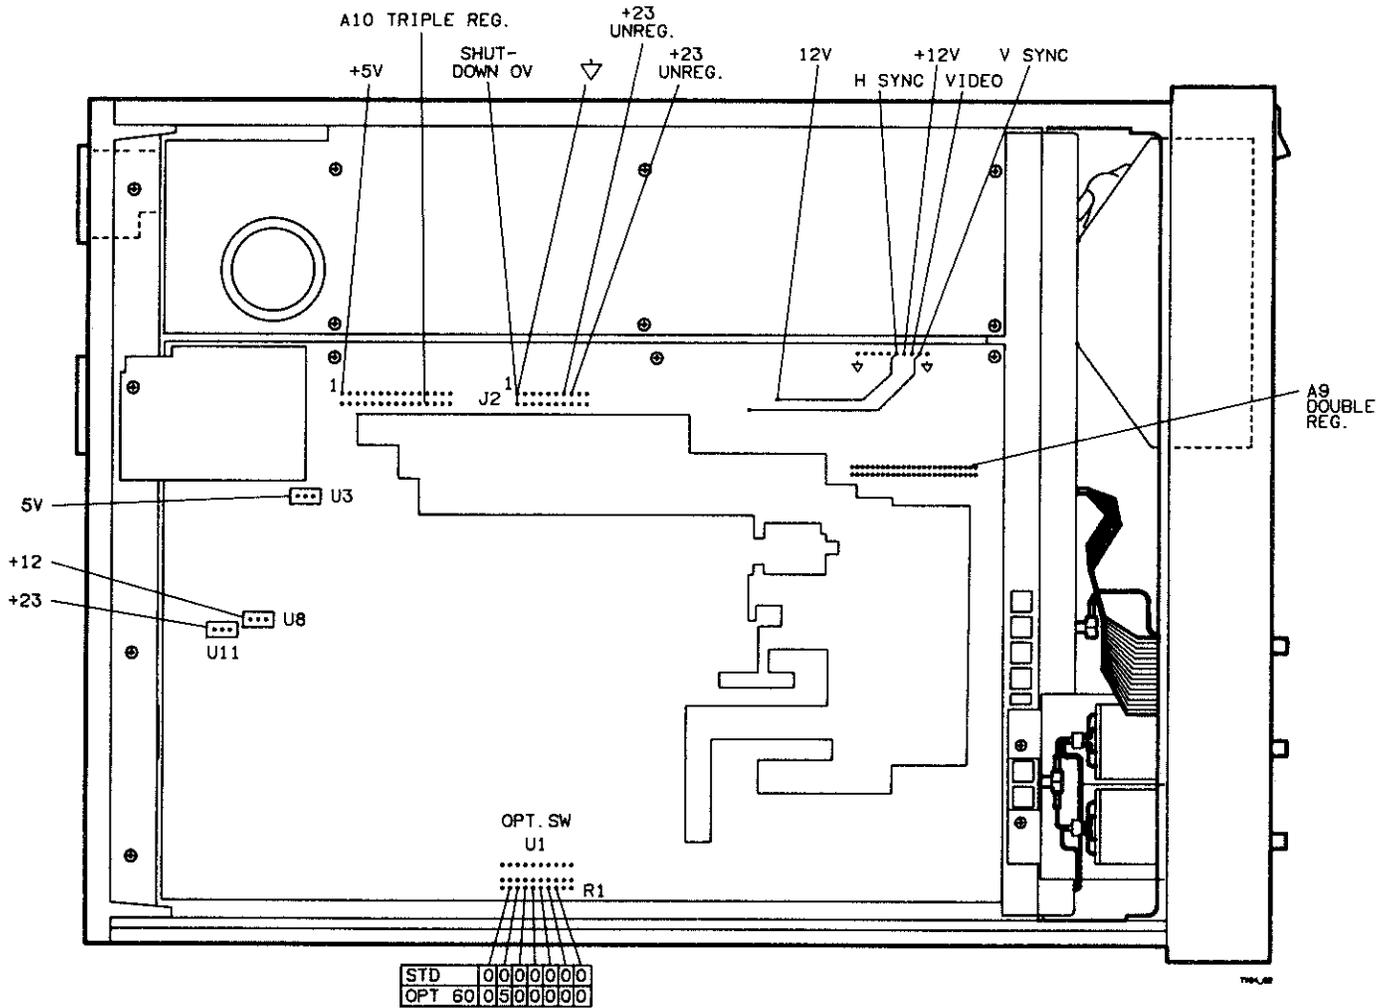

Figure 7-2. Motherboard Voltage Probe Locator
- C. Measure voltages and signals on the bottom side of the A12 Motherboard as shown in *Figure 7-2*.